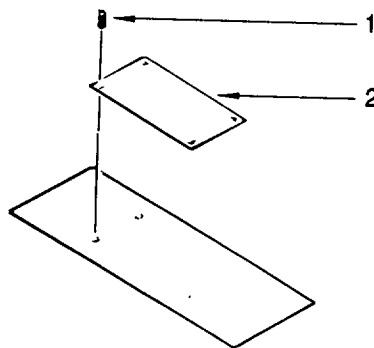

Figure 4-29. Data Plate Replacement
4.15.6 Data Plate Replacement (Typical). (Refer to figure 4-29.)